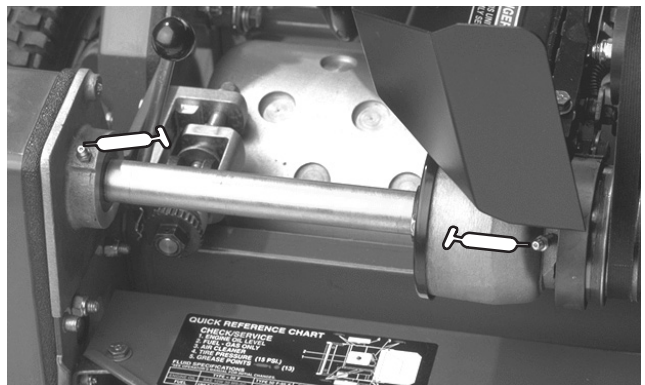

Figure 26
- 2 on the reel countershaft bearings (Fig. 26)